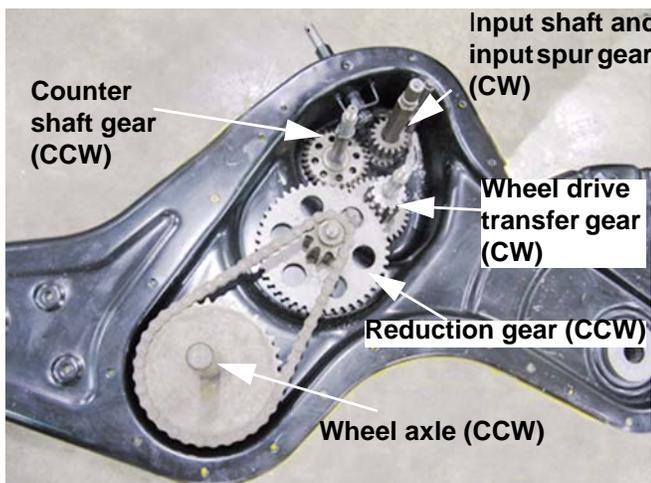

Figure 5.3
8. When the wheel axle turns the opposite direction of the input shaft, the tiller will move in reverse. The tines should not rotate. See Figure 5.3.